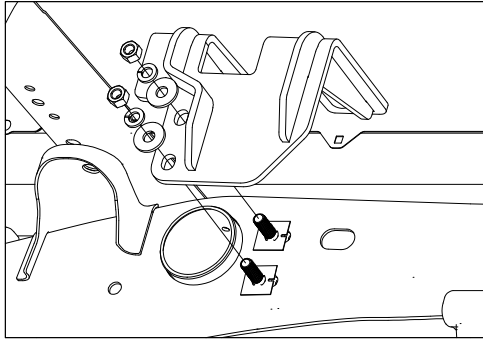

Figure F4: View looking into driver side wheel well.
- 3a. Install the front side plates (without overload brackets).** Locate the two front side plates, four 1/2" lock washers, four 1/2" finish nuts. Pass the top flange of the rear side plates over the frame and then pass the holes in the side plates over the carriage bolts. Secure the side plates with a 1/2" lock washer and nut, see Figure F4. Hand tighten hardware only at this time.